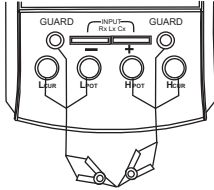

Figure 7
- b) When using  $L_{CUR}/L_{POT}/H_{POT}/H_{CUR}$  terminals insert the black and red testing lines with alligator clip into the "LCUR", "LPOT", terminal and "HCUR", "HPOT". terminal respectively. Connect the mouth of clips (shown in figure 7).